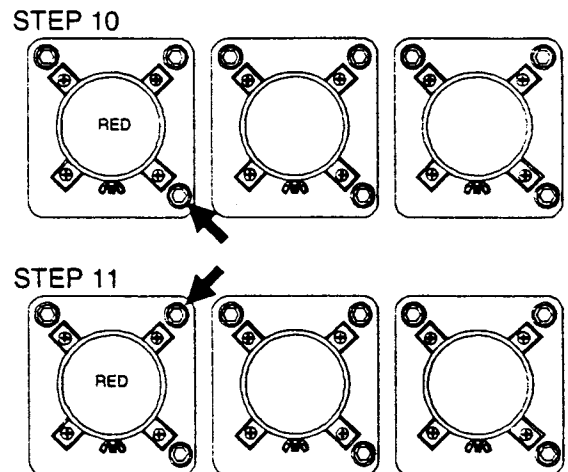

FIGURE S2-4.
- **STEP 10. RED ONLY !** Adjust the lower right lens adjustment until the upper right corner of the image is focused. See Figure S2-4.
- **STEP 11. RED ONLY !** Adjust the upper left lens adjustment for side to side focus. See Figure S2-4.